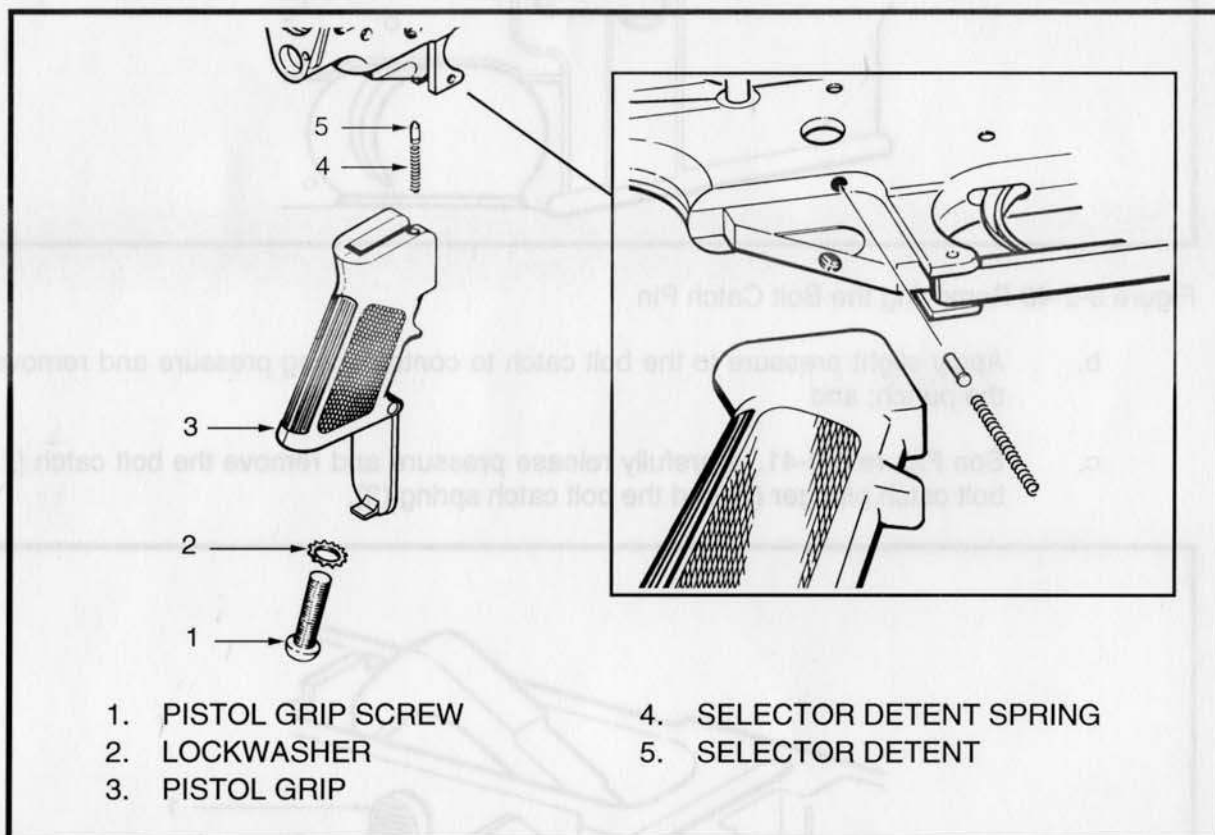

Figure 3-2-39 Removing the Pistol Grip
41. **Removal.** To remove the pistol grip, open the pistol grip cover, see Figure 3-2-39 and proceed as follows:
- a. Using a suitable screwdriver, remove the pistol grip screw (1) and lockwasher (2);
- b. Carefully withdraw the pistol grip (3) and take control of the selector detent spring (4);